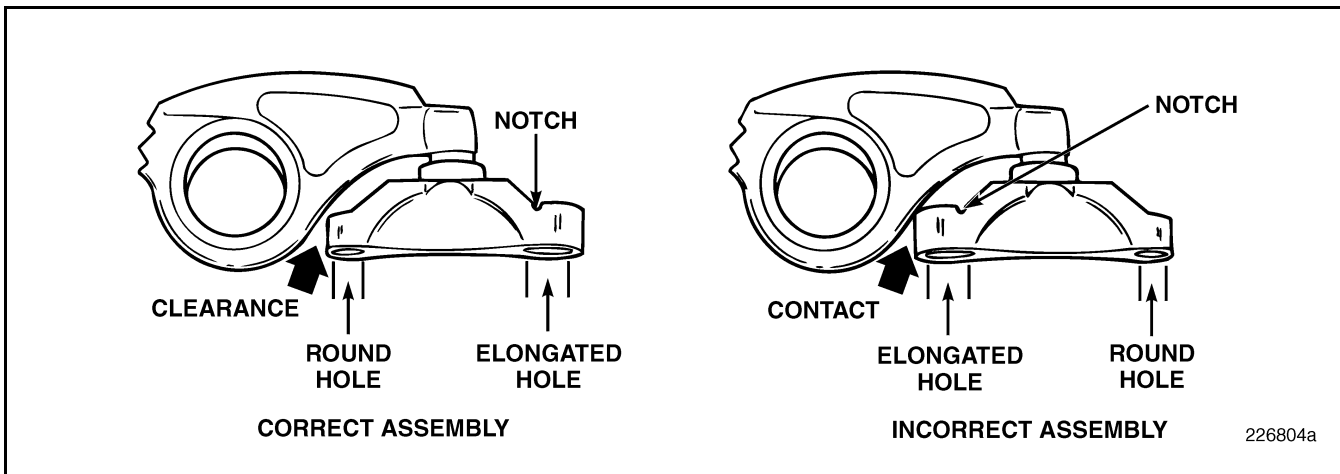

Figure 384 — Proper Assembly of the Pinless Valve Yoke
- Place the six pinless-type yokes in position over the inlet valve pairs at each cylinder. The notch and the elongated hole in the valve yoke must be facing away from the rocker arm as shown in Figure 384.
When installing pinless yokes, the end of the yoke with the two notches must face away from the valve rocker shaft. If the yoke is installed incorrectly, it will contact the rocker arm. See Figure 384.